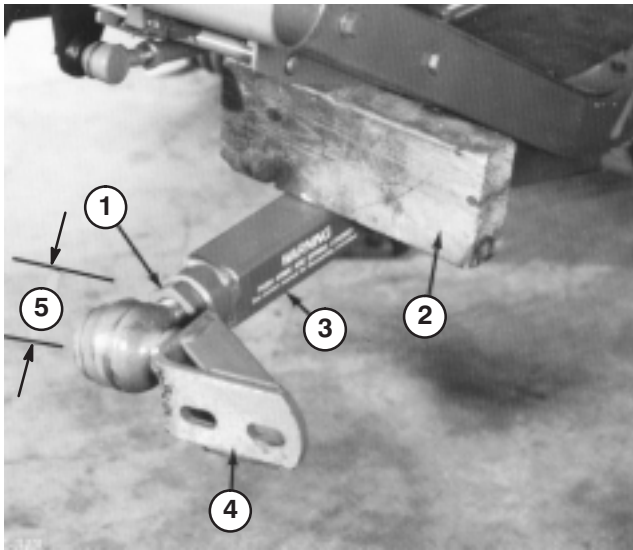

Figure 18
- Have a helper push down on the left push arm. Then insert a 2 x 4 in. (51 x 102 mm) block of wood between the frame and top of the push arm (Fig. 18). Screw ball joint into left hand push arm until center of ball joint is 2-3/8 in. (60 mm) away from front of push arm (Fig. 18). Do not tighten jam nut.